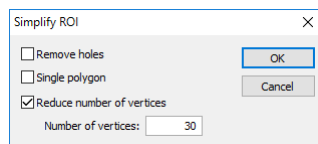

Figure 259 – Simplify ROI dialog
2. Click the **Simplify...** button. The **Simplify ROI** dialog is then displayed (see Figure 259).